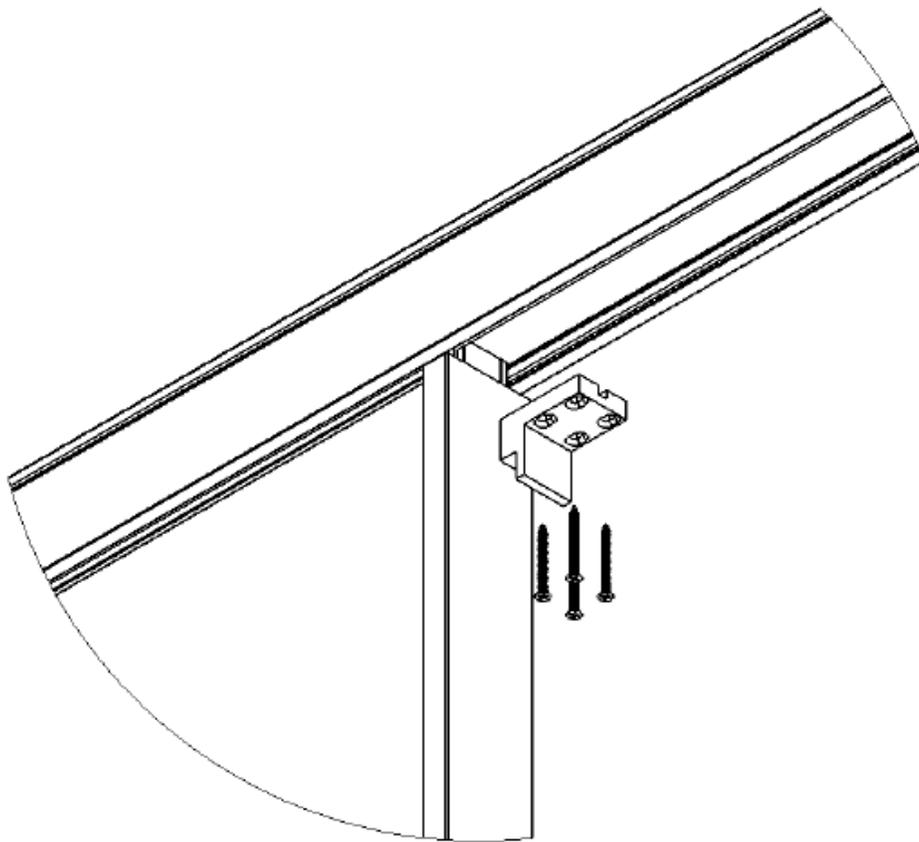

Figure 17
Anchor the head of the fixed panel in location using the anchor clip and (4) #10 x 2” screws. See **Figure 17.**